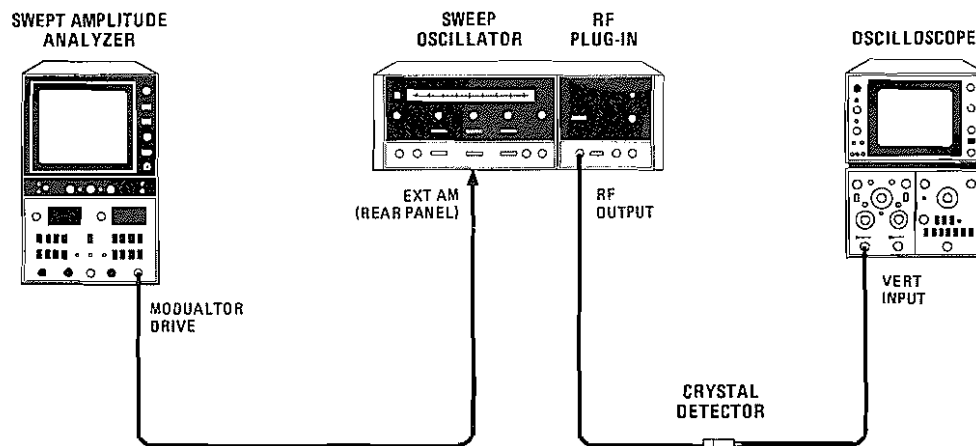

Figure 5-5. Delay Adjustment Test Setup, Option 001
- a. Connect equipment as shown in Figure 5-5.